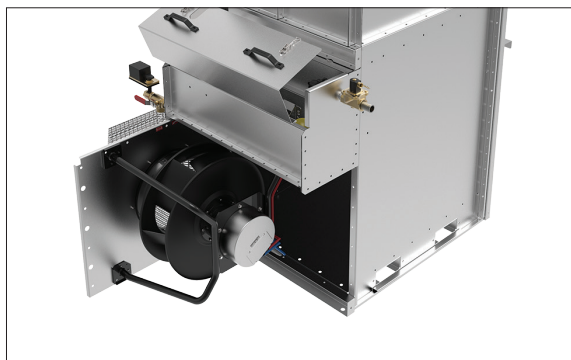

Figure 4. Hinged Access Fan Panel
- Open hinged access fan panel (see **Figure 4**) to clean all mechanical components and to remove dirt and debris from plenum area.